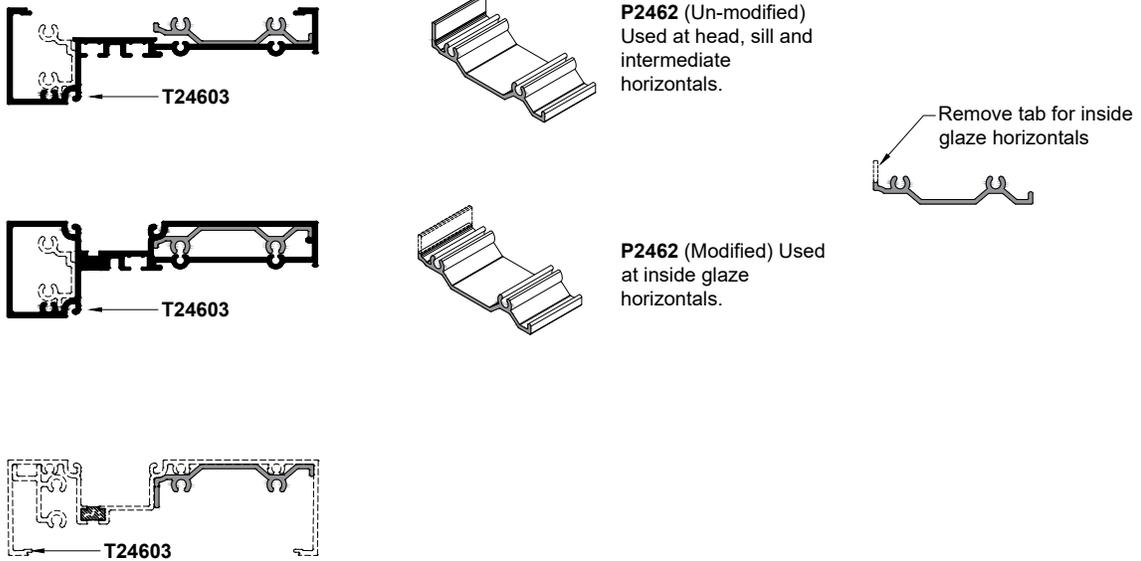

Fig.28.1
- B. **SEE Fig.28.1 & Fig.28.2** for instructions on modifying for the various sections.